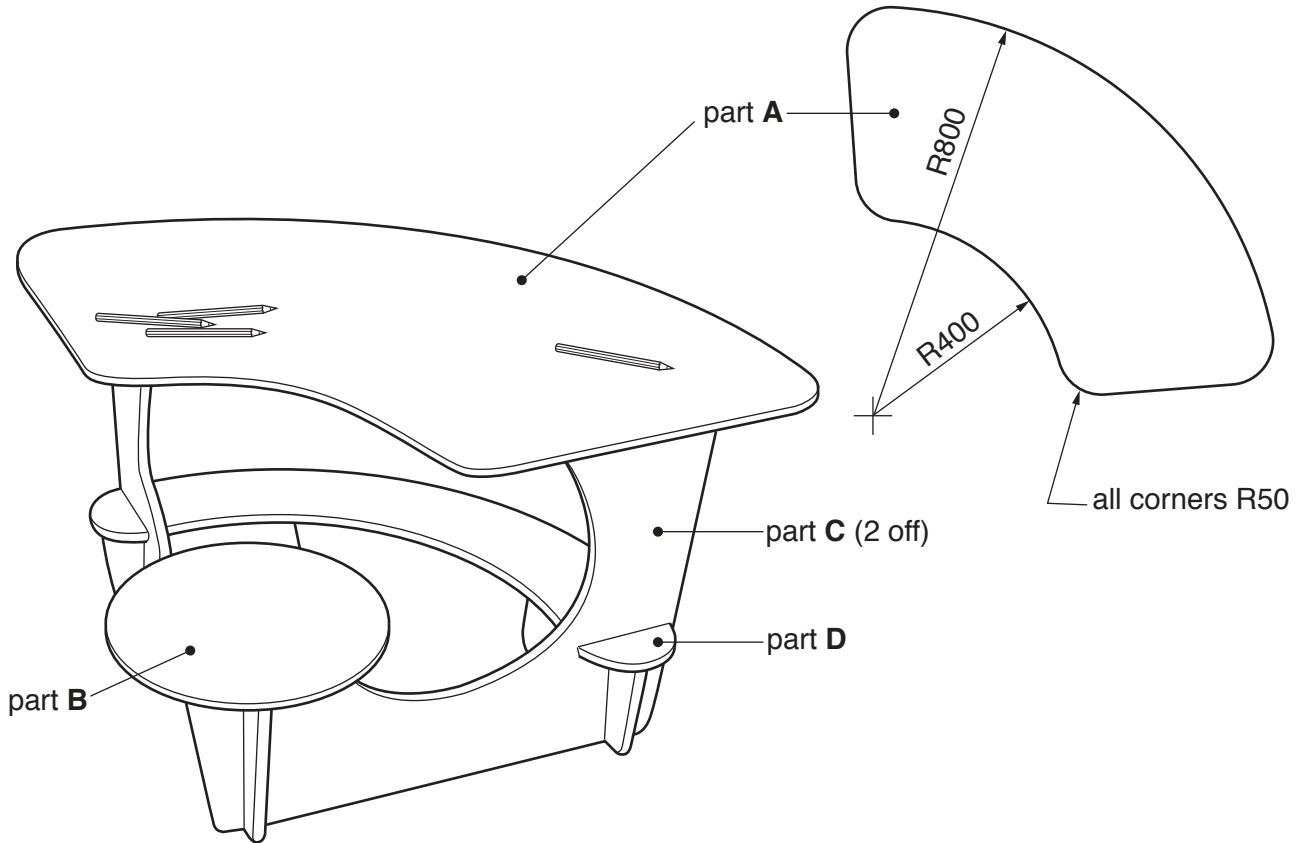

Fig. 1
- 1 Fig. 1 gives details about a combined desk and seat unit which is to be made in a school workshop. Five parts, made from blockboard, will slot together to make the frame that supports the top (part **A**) and the seat (part **B**).